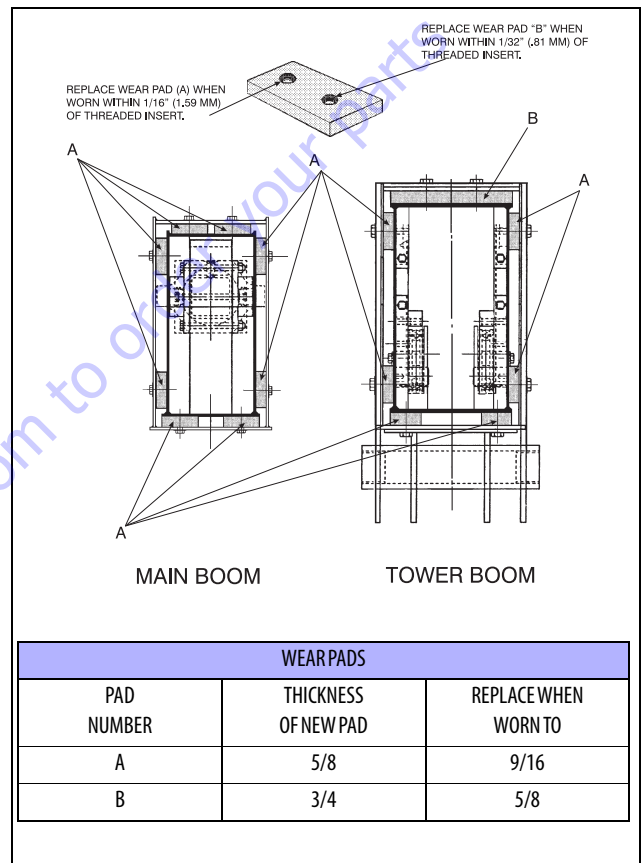

Figure 4-12. Location and Thickness of Wear Pads
2. Replace wear pads when worn within 1/16 in. (1.59 mm) and 1/8 in. (3.18 mm) - B, C, D of threaded insert. See Figure 4-12., Location and Thickness of Wear Pads.